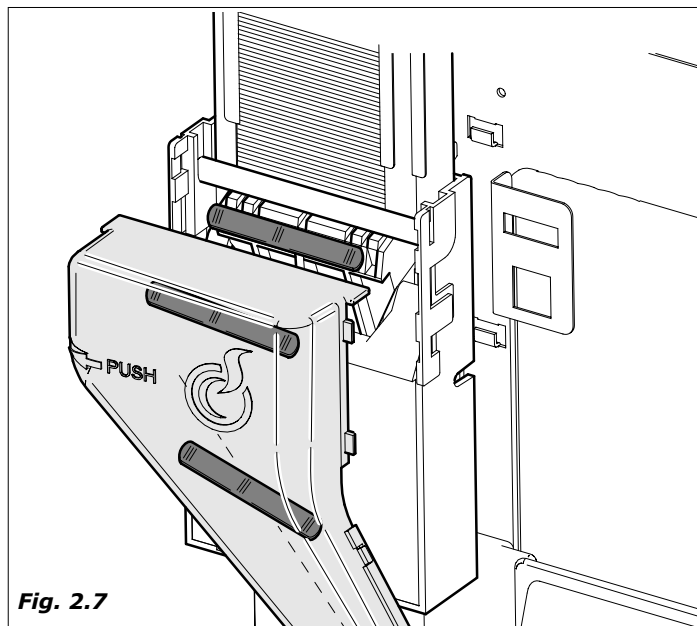

Fig. 2.7
- the geared motor that operates the spoon release device is activated making the spoon fall into the cup. (Fig.2.7).